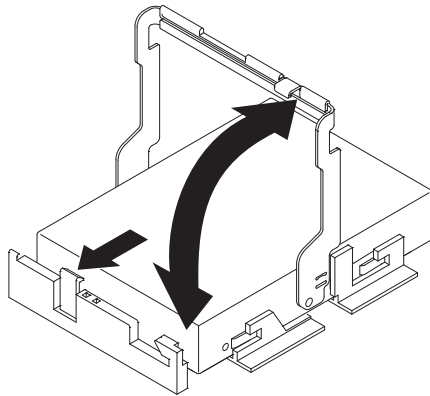

Figure 69. Raising the drive handle
- a. Raise the drive handle to the vertical position, as shown in Figure 69 on page 112.